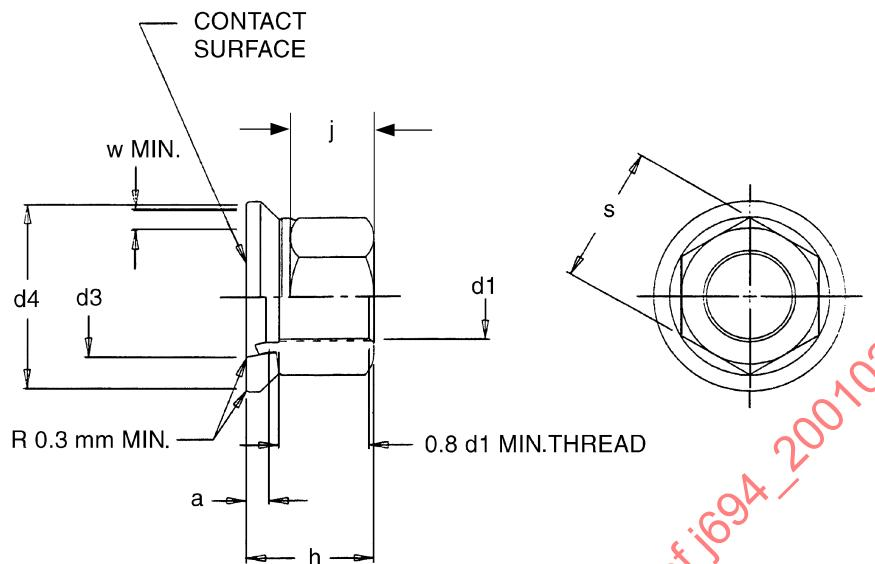

FIGURE 4—TWO-PIECE FLANGE NUT
5.3.1 DEFINITIONS OF FASTENER DIMENSIONS—Reference Figure 4.